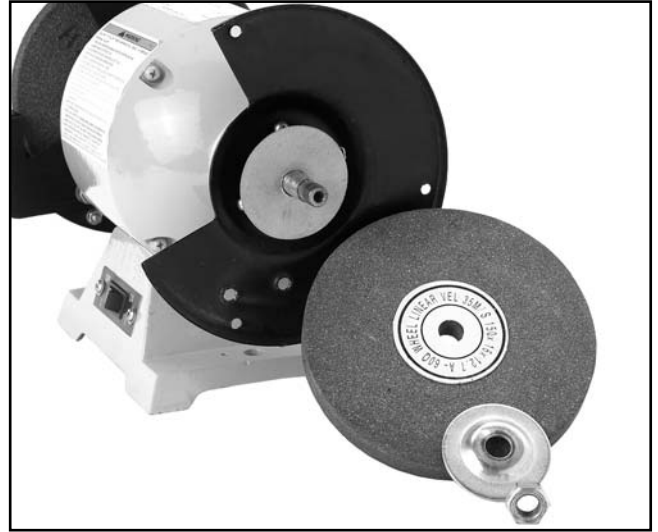

Figure 5. Grinding wheel assembly.
5. Pull the wheel free from the arbor. There will also be a paper disc and a wheel flange on the back side of the wheel. Always make certain there is a paper or fiber disc between the wheel flanges and the wheel itself, this helps to spread the rotational forces across the inner area of the wheel. See Figure 5.